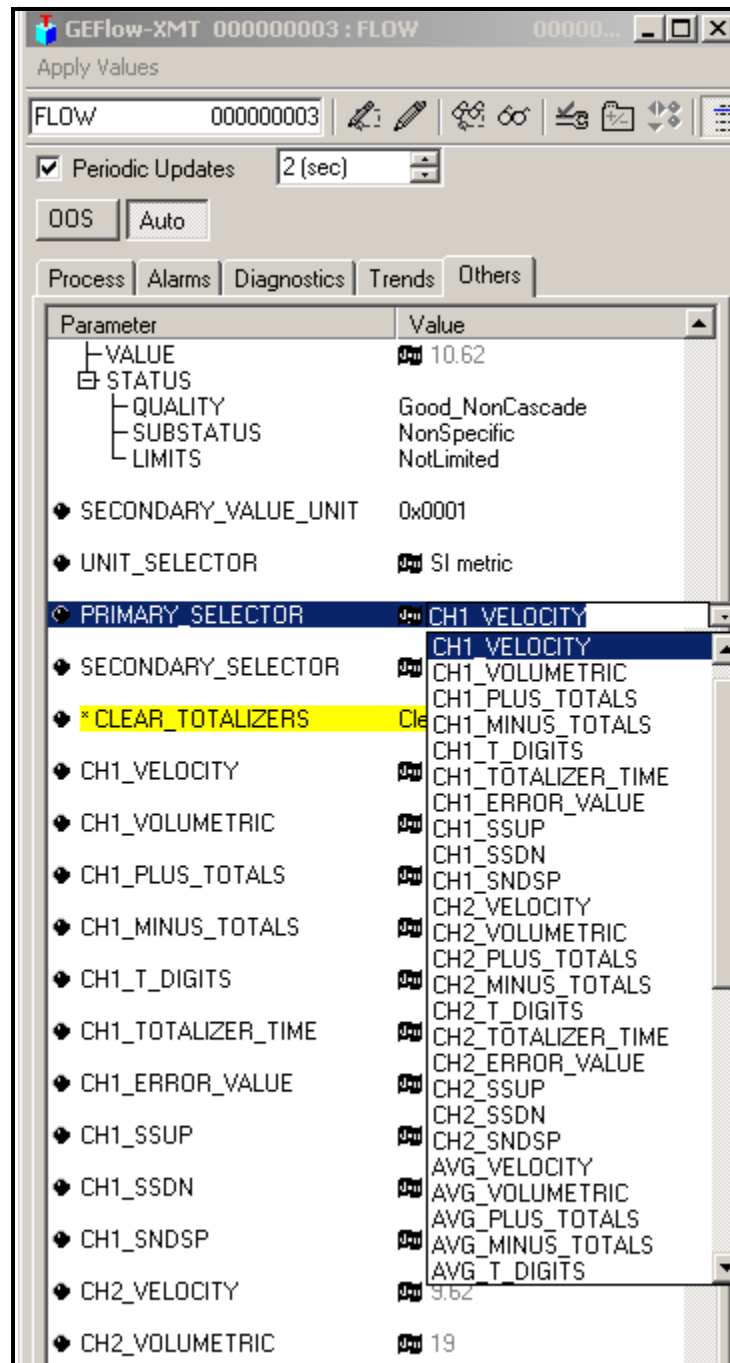

Figure 40: Primary Selector Drop Down List
2. Select the **Others** tab and open the drop down list for the PRIMARY_SELECTOR and SECONDARY_SELECTOR (refer to Figure 40 on page 115).
3. Choose the unit from the list (see Figure 40 on page 115).